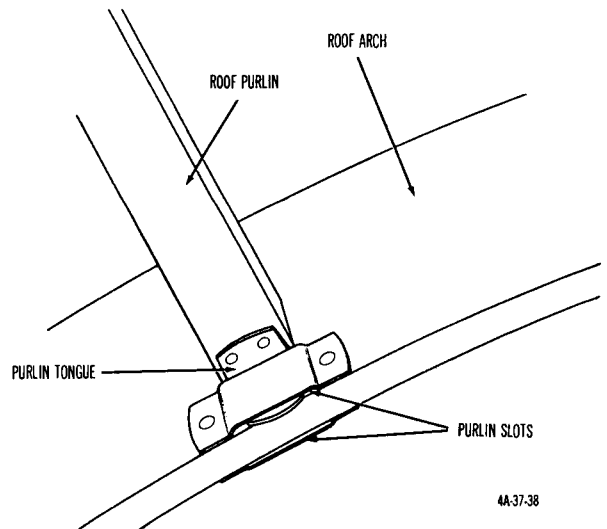

Figure 66. Installing roof purlins in tent frame-type, insulated, sectional.
- (f) Install roof purlins between arches by inserting purlin tongues into purlin slots on the arches (fig. 66).